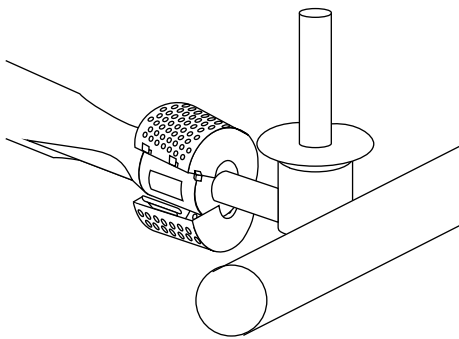

Figure 18
10. Unlatch the Spider Stopper Guards and remove. Figure 18.